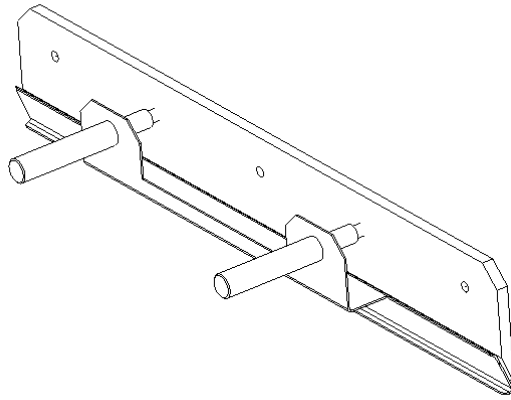

Figure. 28a. Knife in the transport handle
Place the removed knife into the special protective packaging (Fig. 28a - 28d.) With the blade inwards and fasten it with two screws. To unscrew the bolts fixing the blade knife, use the RWTg 8 wrench provided on the cutter.
8.1.2.2. Remove the knife from the packaging (Fig.28a - 28d)